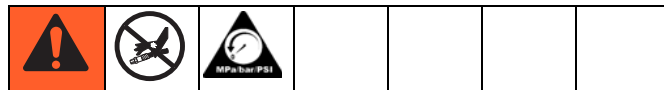

**FIG. 82**
14. Install ball stop and dispensing valve (FIG. 82).